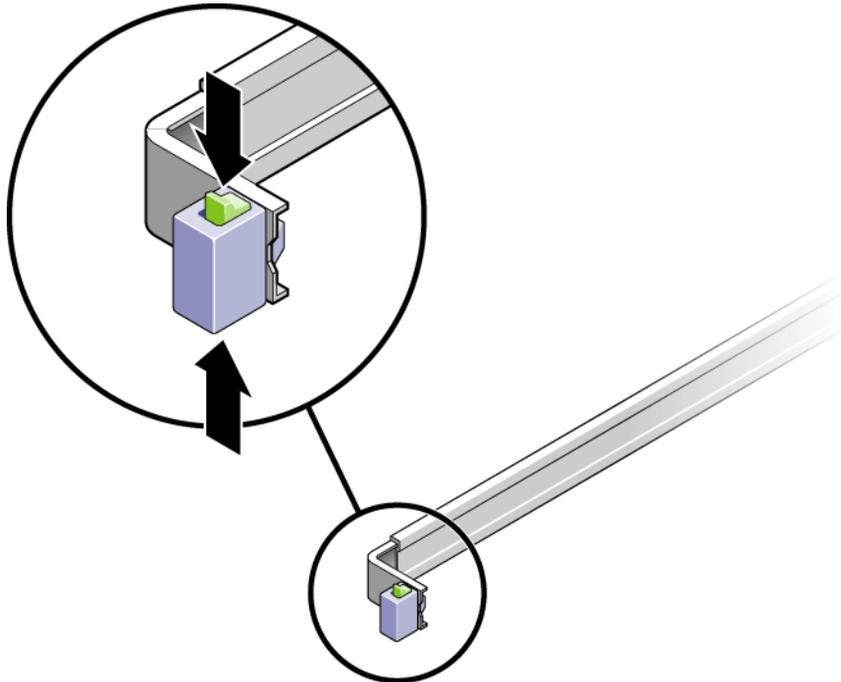

FIGURE 2-12 Unlocking the Slide Rail Assembly
- a. **Press and hold simultaneously the upper and lower lock buttons of the slide rail lock (FIGURE 2-12).**